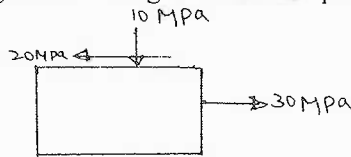

Fig. Q3(b)
b. The state of stress at a point in a strained material is as shown in the Fig. Q3 (b). Determine (i) Principal stresses and principal planes (ii) Max shear stress and its plane (iii) Sketch the stress diagram showing stresses and planes. (10 Marks)